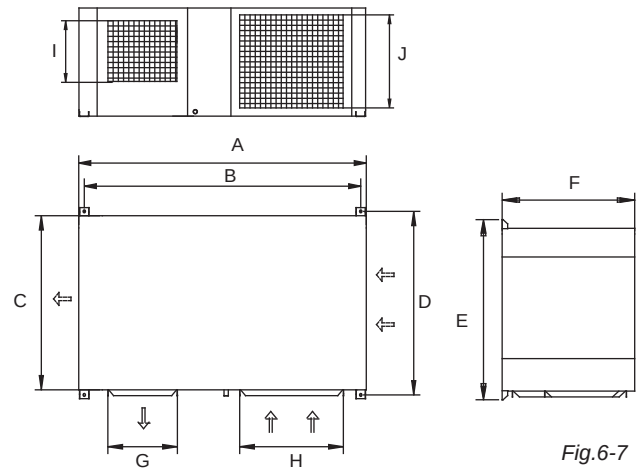
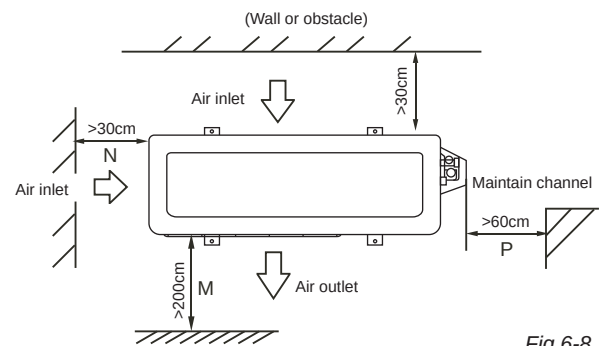
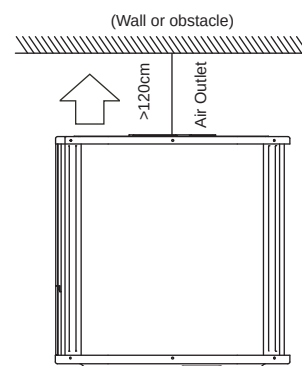

Fig.6-7
Fig.6-8
Fig.6-9
- The minimum distance between the outdoor unit and obstacles described in the installation chart does not mean that the same is applicable to the situation of an airtight room. Leave open two of the three directions.(Refer to Fig.6-7, Fig.6-8, Fig.6-9)